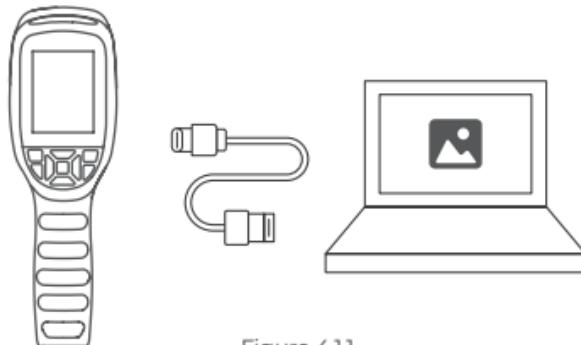

Figure 4.1.1
2. Connect TC004 SE to your computer with the supplied USB cable (see Figure 4.1.1).